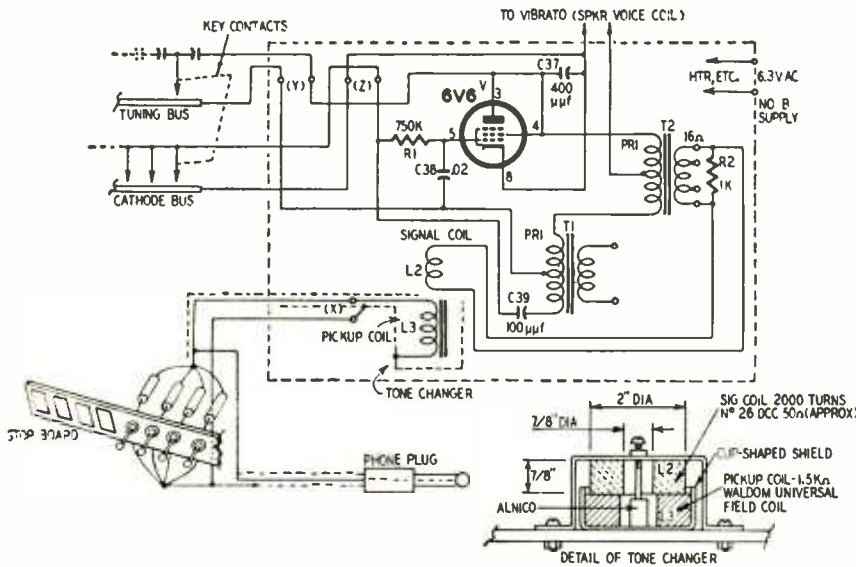

Fig. 3—Diagram of the 6V6 oscillator and tone-changer details. The 6.3-volt input is the sole power supply.
- L2—2,000 turns No. 26 dcc wire (see Fig. 3)
keyboard and tuning capacitors, stop board and vibrato. The original instrument (Fig. 2) uses a 117L7-GT. A second model, used in some photographic illustrations, has a 6V6 connected as in Fig. 3.
During this procedure, hook different values of capacitors between points X in Fig. 3. Also, short across tie points marked "to vibrato." Cement or solder a small Alnico bar magnet (the type glued to many novelties) onto a thin 6-inch steel ruler (the kind sold in dime stores). Let the Alnico slug vibrate or oscillate near the core of T1 while holding the opposite end of the scale between thumb and forefinger. By changing values of capacitors at points X in Fig. 3 you can enjoy the tone colors possible while producing different frequencies. A decade or substitution box will be a handy item here as well as later in final tuning. A switch across points Z serves as a key during this test.